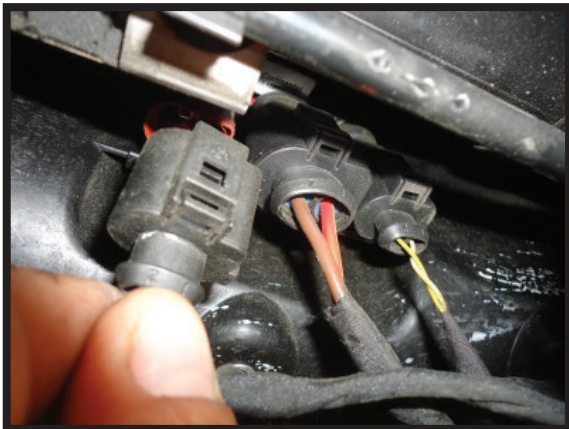

FIGURE 3
5. Disconnect the three (3) electrical plugs from the compressor assembly to the vehicle. (FIGURE 3)